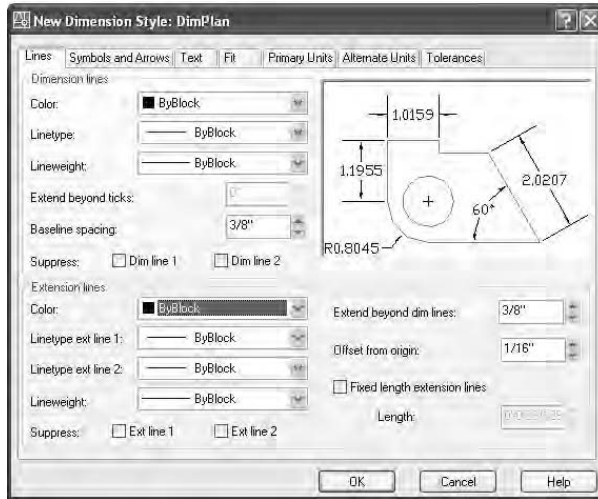

FIGURE 11.4 The New Dimension Style dialog box with DimPlan as the current style and Lines as the active tab
4. Click the Continue button. The Create New Dimension Style dialog box is replaced by the New Dimension Style: DimPlan dialog box (see Figure 11.4). It has seven tabs. You have created a new dimension style that is a copy of the Standard style, and now you will make the changes necessary to set up DimPlan to work as the main dimension style for the floor plan of the cabin.